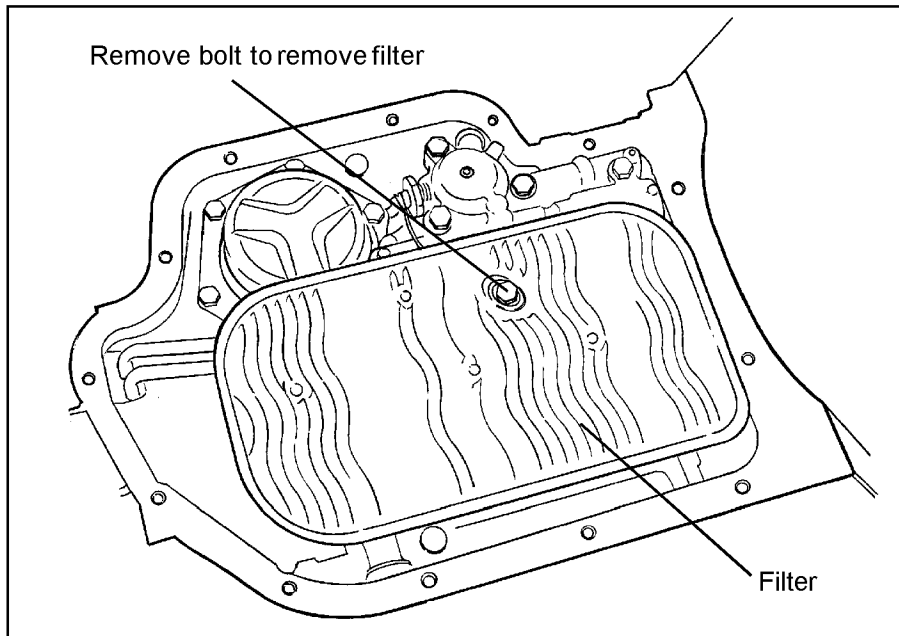

Figure 3
STEP 2. Oil filter removal (See Fig. 3) Remove the shoulder bolt holding the filter and pull the filter straight down. Some models also use a spacer between the filter and valve body. If the oil pick-up tube did not come out with the filter, pull it out. Remove the O-ring from the bore in the case if it did not come out with the oil pick-up tube. Be careful not to scratch the case bore when removing the O-ring.